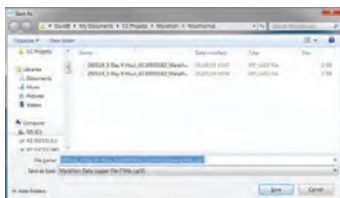

FIGURE 10
- 2.2.2. Click Yes to read data from the Data-Logger, and software prompts to input filename and location, see Fig. 10.